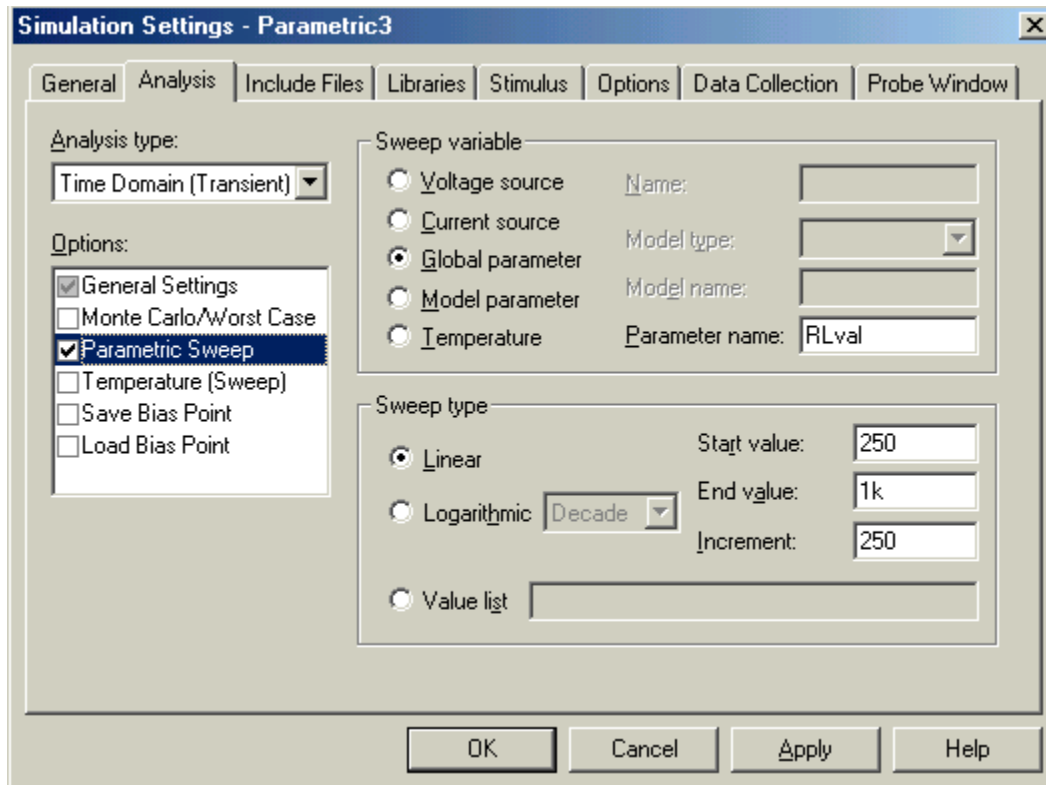

Figure 29. Window for the Simulation Settings of the Parametric Sweep.
- e. Under Option, select Parametric sweep as shown in Figure 29.
- f. For the Sweep Variable, select Global Parameter and enter the Parameter name: RLval. Under sweep type give the start, end and increment for the parameter. We'll used 250, 1kOhm and 250, respectively (see Figure 29).